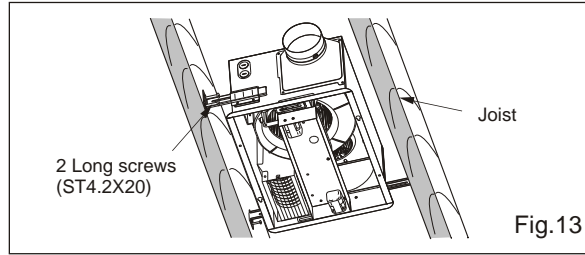
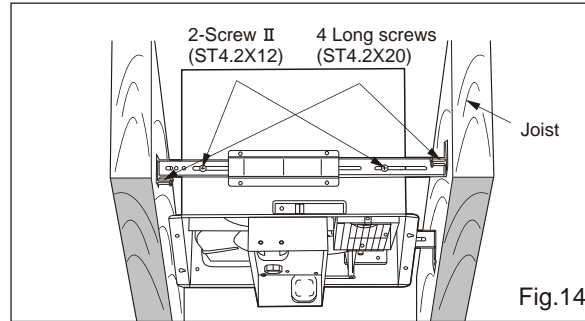

Fig.13
Fig.14
- Secure the suspension bracket to joists by using long screws (ST4.2X20). (Fig.13, Fig.14)
- Secure the suspension bracket to fan body by using screw II (ST4.2X12). (Fig.14)